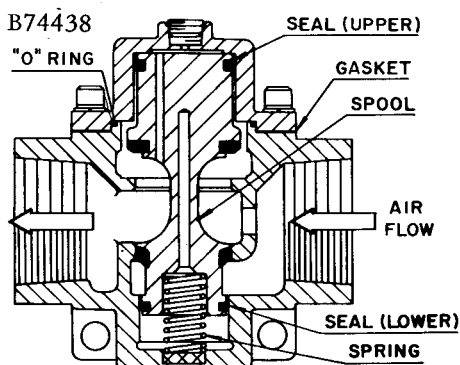

FIGURE 1-2. — MINIMUM DISCHARGE PRESSURE VALVE
**MINIMUM DISCHARGE PRESSURE VALVE** (Figure 1-2) — An internal pilot operated minimum pressure valve is used in the discharge line from the air receiver section of the reservoir to provide a positive pressure on the oil system of the compressor and prevent excessive oil carry-over into shop air lines even when the air service valve is fully open. The amount of oil carry-over into the air service line depends on the operating pressure. A normal carry-over amount is one pint per 100 hours of operation at 100 PSIG.